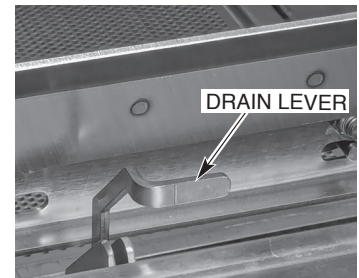

Fig. 26
4. Open drain(s) by pulling drain lever(s) up (Fig. 26).